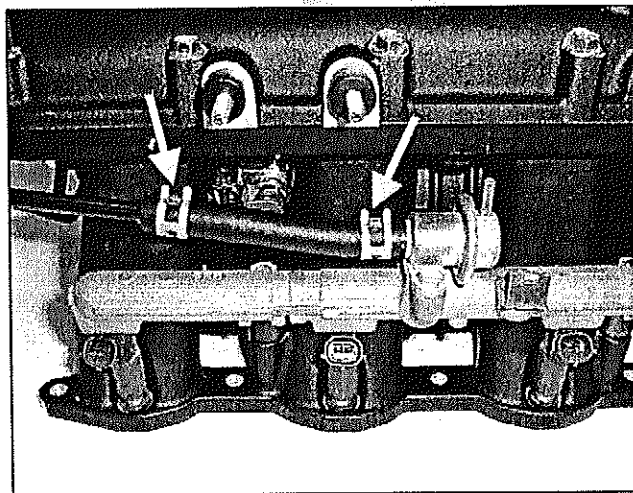

Figure 25
7. Install the factory fuel return hose on the fuel pressure regulator. Use the factory hose clamps to secure the hose (Figure 25).